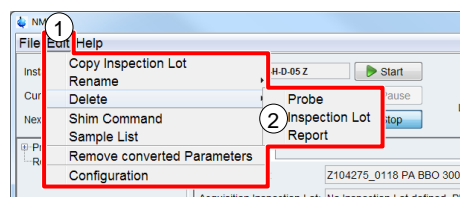

Figure 5-25: Delete Inspection Lot in menu
To delete an Inspection Lot from *NMRPT*, on the **Edit** menu shown in Figure 5-25 (1), point to **Delete**, and click **Inspection Lot** (2).